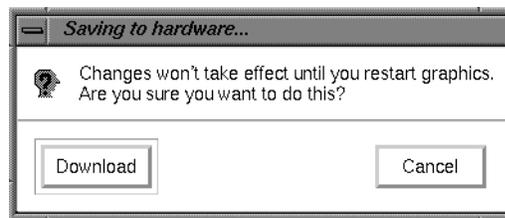

Figure 3-18 Saving to Hardware Dialog Box
10. Click the *Download* button (see Figure 3-18).